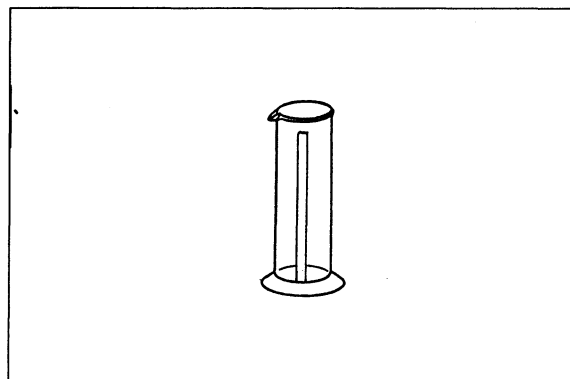

Fig. 2 ► 5.
5. Stick the paper strip to the side of the measuring cylinder which does not have a measuring scale on it ► Fig. 2.